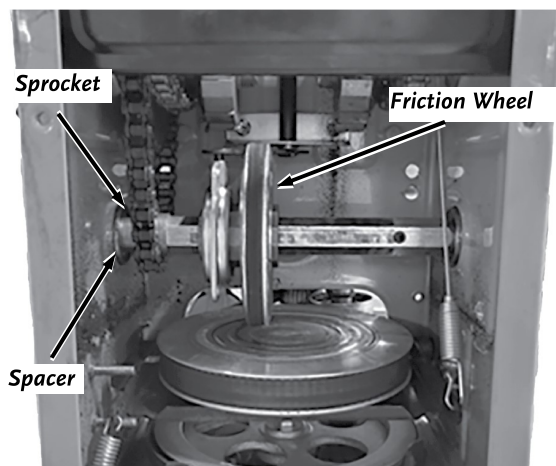

Figure 57
7. Remove the Hex Shaft, Friction Wheel, Sprocket, and Spacer (**Figure 57**).